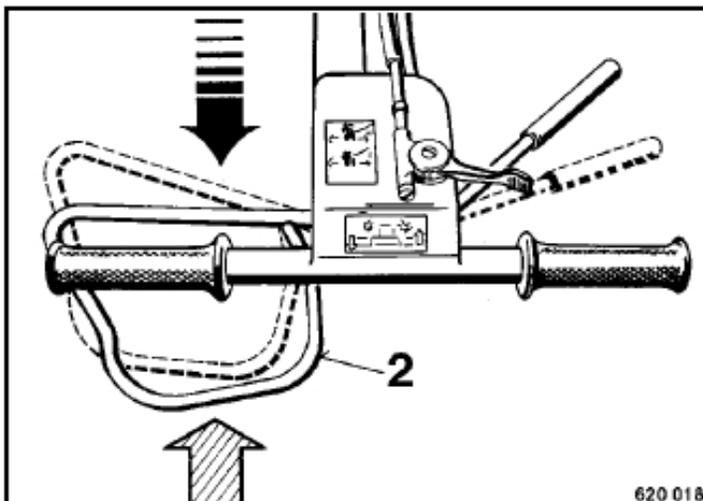

Fig. 15
- 1 If the operator is pressed against an obstacle during reverse travel, the backup protection bow 2 (Fig. 15) is forced to forwards travel.